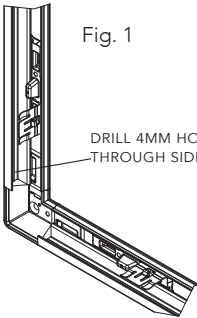

Fig. 1
1. Drill 4mm holes through the side of the frame for fixing (fig. 1).
- 1. Slide bracket locators into the two sides and the bottom of the Perfect Fit Universal frame (fig. 1).